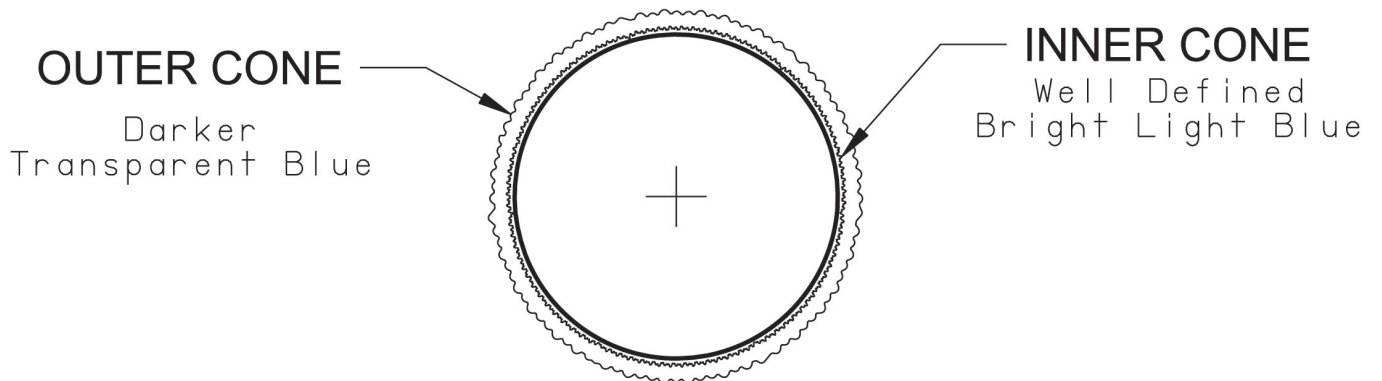

Figure 11.3: Burner Flame
- 14) Inspect the flame visible through the window. On high fire the flame should be stable and mostly blue (Figure 11.3) No yellow tipping should be present; however intermittent flecks of yellow and orange in the flame are normal.